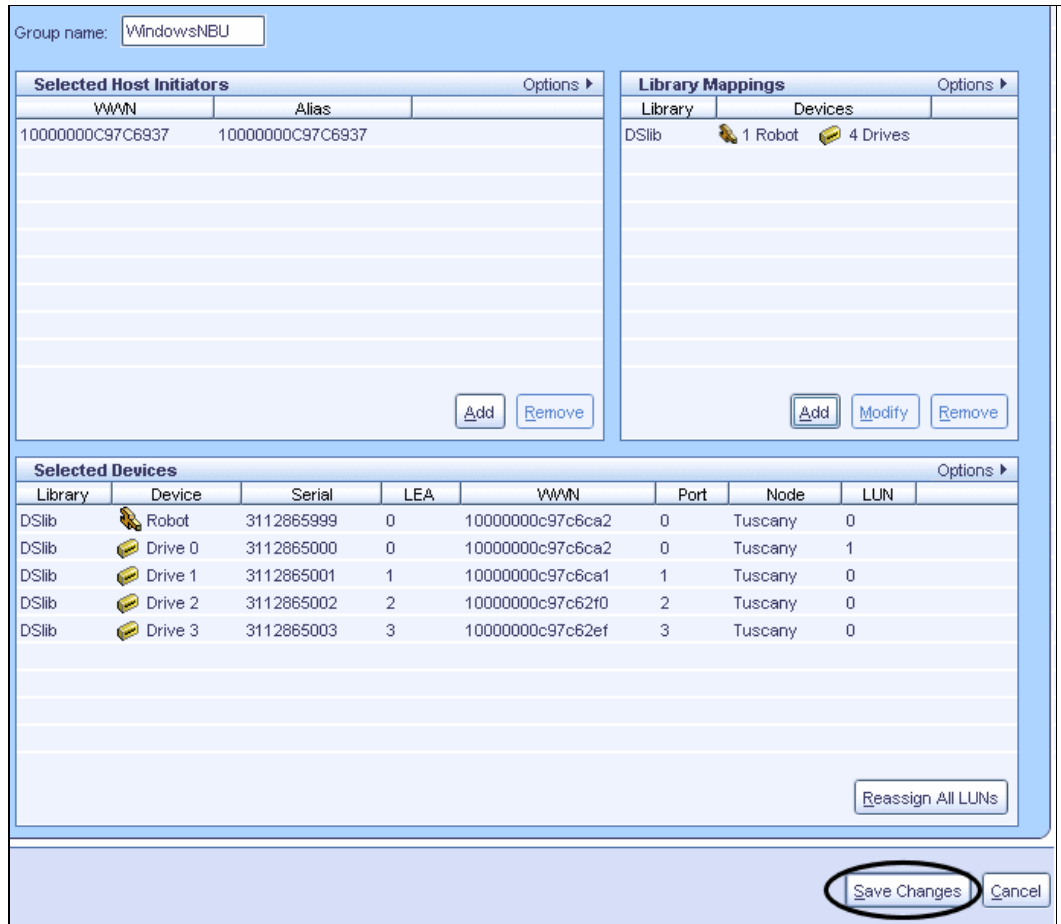

Figure 6-17 LUN Masking window
- The LUN Masking window should show the tape devices selected for the group, as shown in Figure 6-17. Confirm that the Host Initiators and tape devices are correct and click **Save Changes**.